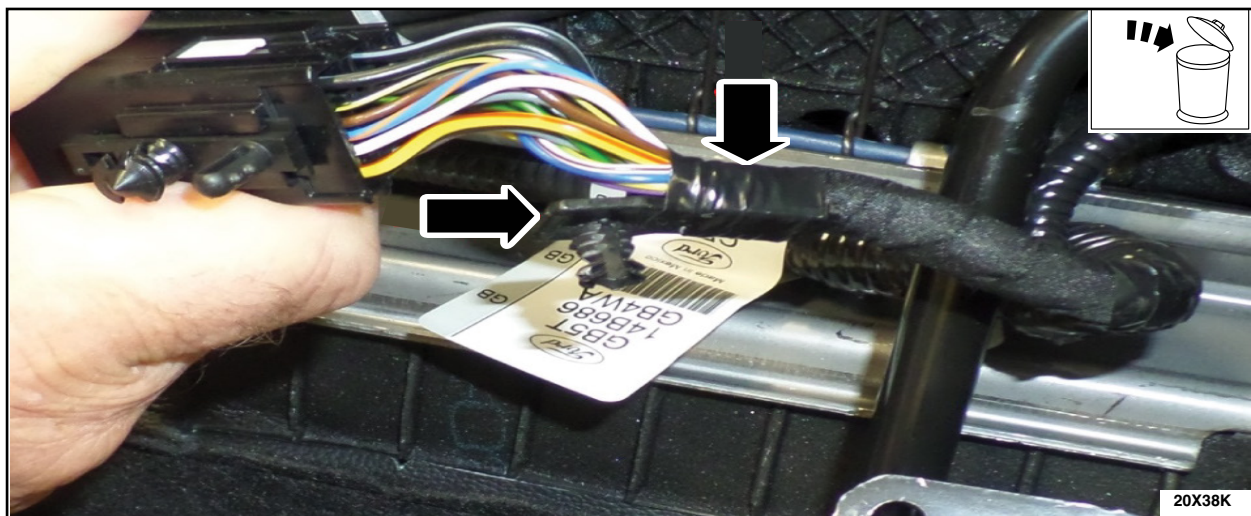

FIGURE 15
5. On the male side connector of the affected seat where the wiring harness is taped to the harness - pushpin retainers, remove the retaining tape and the harness pushpin. Discard the pushpin. See Figure 15.